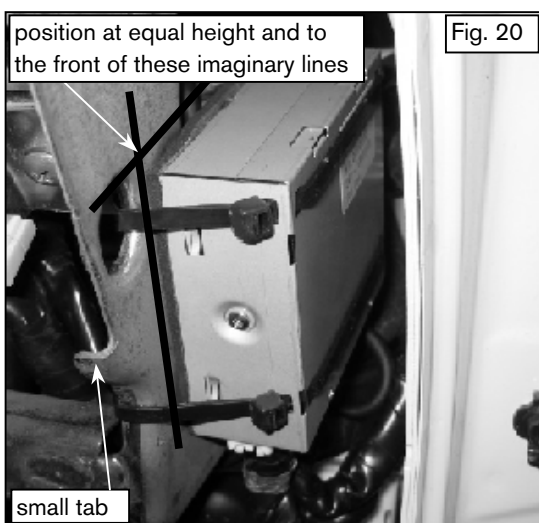

Fig. 20
(7) Now the tape liner can be removed and the assembly put into place. Fig 20
(8) Position the assembly just in front of and at equal height as the top of the hole in the metal frame. Apply equal pressure to the module for at least 20 seconds. After attaching to metal frame let the module sit for 5 minutes to ensure good adhesion before applying any shear pressure. Fig. 20
(9) Tighten the large cable ties. Fig. 20